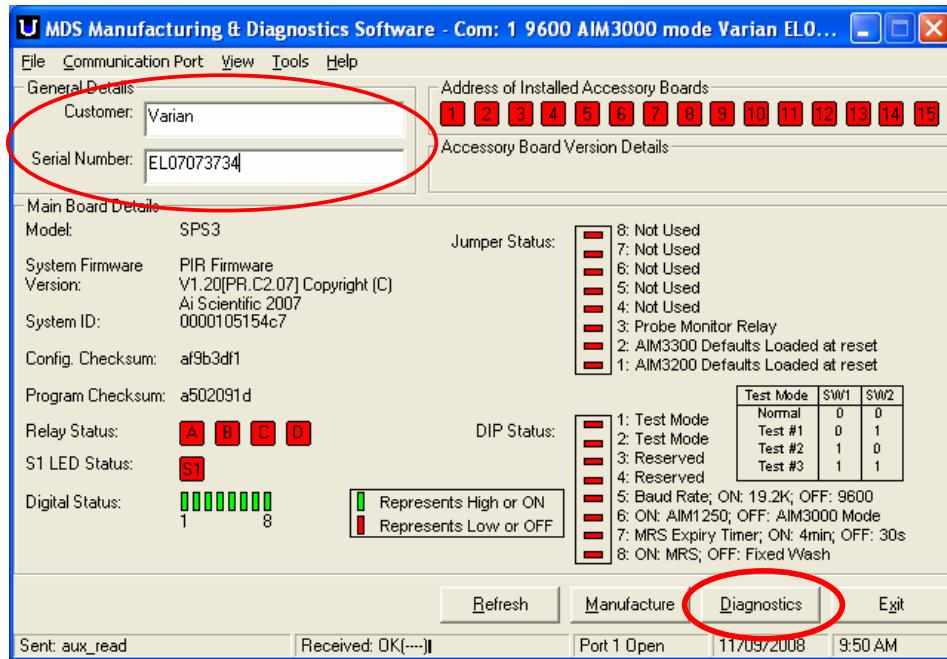
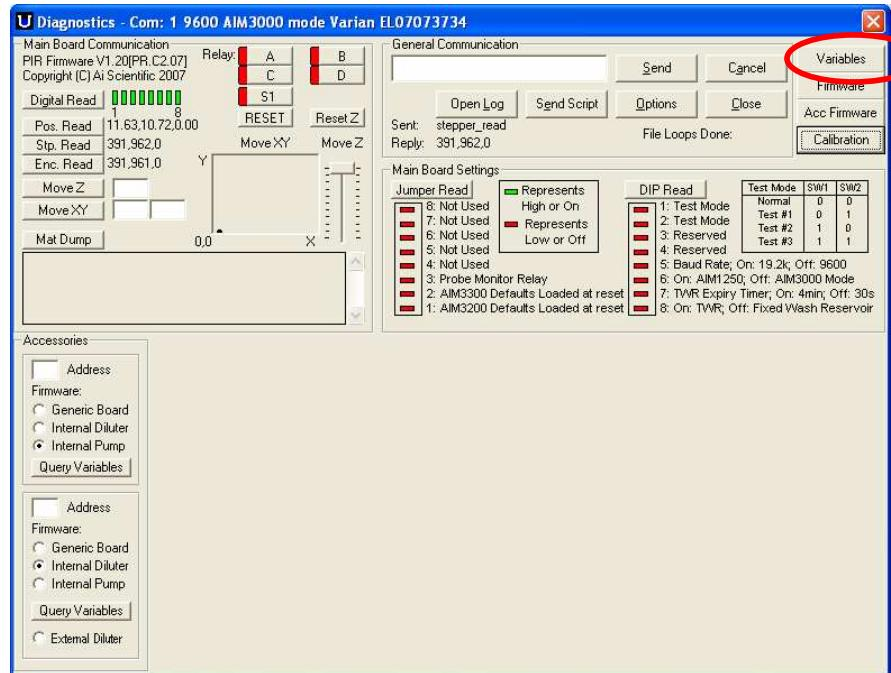

Figure 2: Varian SPS MDS Software Front Page
Figure 3: Diagnostics Section of the SPS Software
2. Once the serial cable is connected to the PC, power up the fraction Collector and allow it to go through its start up routine. Launch the Varian SPS MDS software, and you should see the screen in Figure 2.
3. Insert the customer Details and Serial number of the unit. Then click the *Diagnostics* Button (Figure 2). You should now see the screen in Figure 3.
4. Select the *Variables* option (Figure 3) and that should open the Calibration Variables Page.